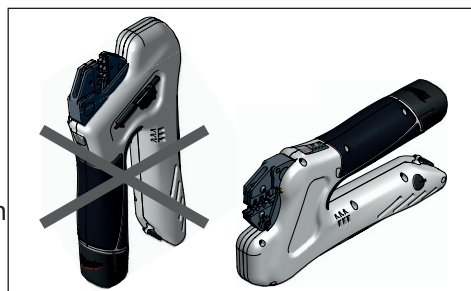

Figure 4a
- To prevent damaging on the tool it needs to be used as shown on Figure 4a